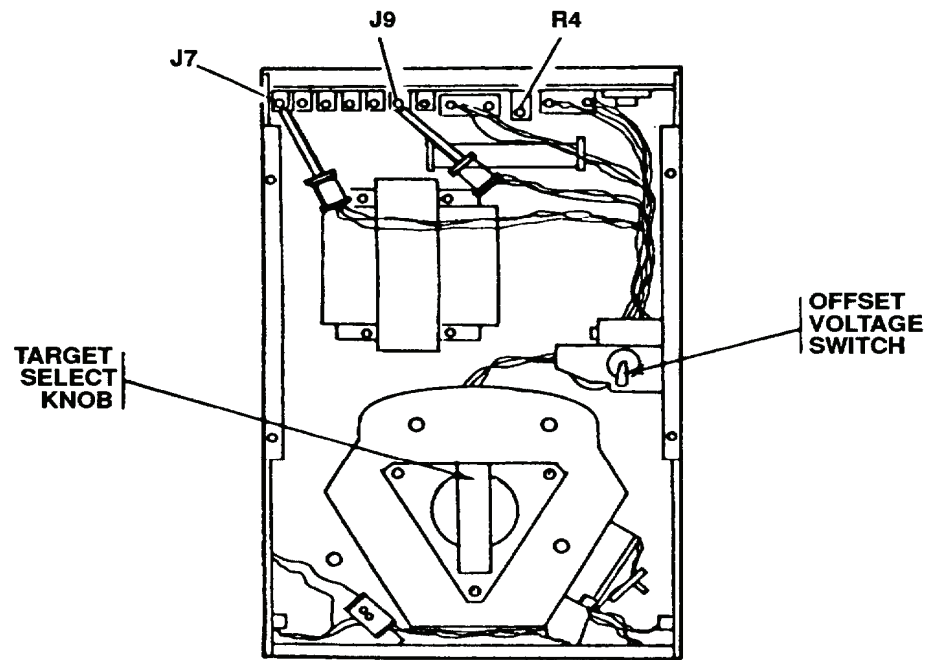

Figure 1. Temperature controller locations.
- b. Set target select knob (fig. 1) to **BAR** position
- o. Place offset voltage pin adapters on pin J7 (black) and J9 (red) (fig. 1). Connect leads to proper pin adapter (black to black, red to red).
- s. Set offset voltage (toggle) switch to **ALIGN** (fig. 1).
If this is the initial calibration, adjust temperature controller potentiometer R4 (fig. 1) for an indication of 4.30 ± 0.05 V dc on multimeter no. 2.
- u. If necessary, adjust temperature controller potentiometer R4 (fig. 1) for multimeter no. 2 indication equal to previous offset voltage listed on TI offset voltage label (located on temperature controller) ± 0.05 V dc. Record indication as V_o .
- (1) Open access hatch on shroud and remove cover plate from TI temperature controller.
- (2) Set offset voltage switch to **ALIGN**.
- (3) Adjust offset voltage potentiometer R4 (fig. 1) for an indication change of 0.1 V dc on multimeter no. 2.